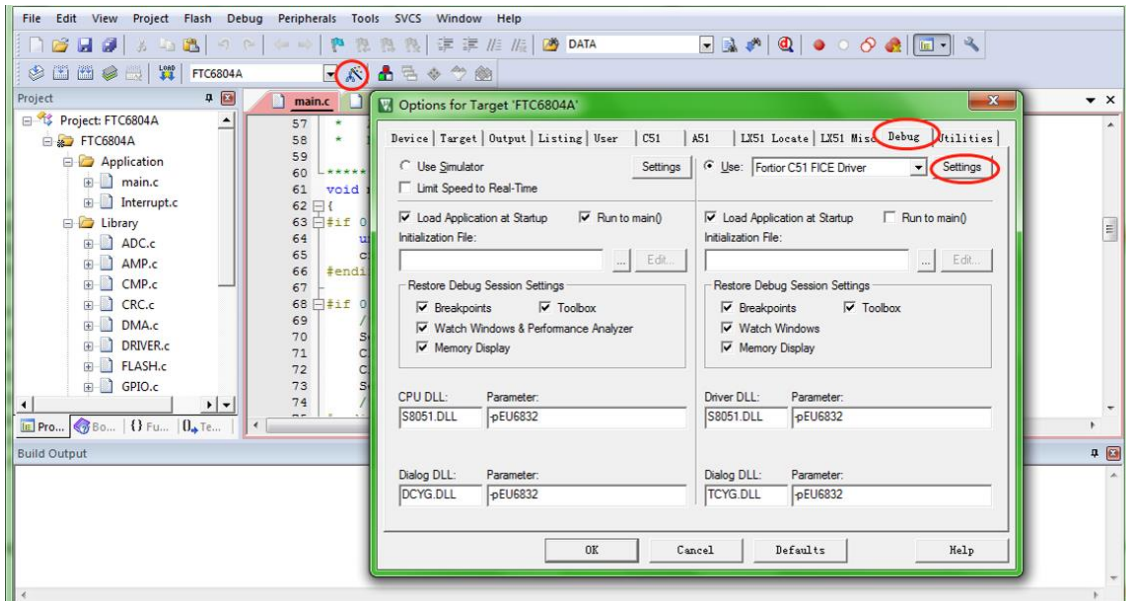

Figure 33-1 Code Protection User Configurations
1. Start 8051 IDE, enter Target Options and select Debug tab. As shown in Figure 33-1, click Settings to proceed with the setting;